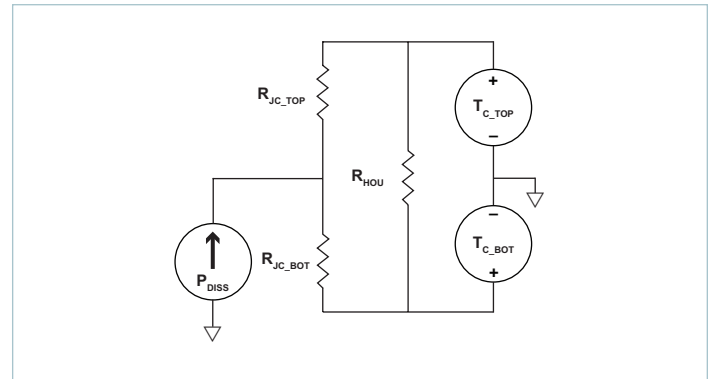
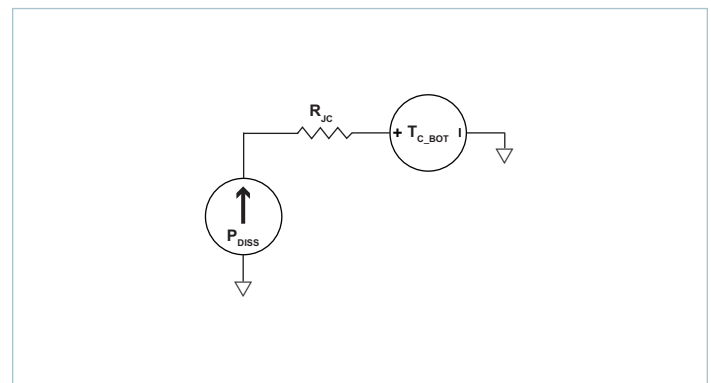

Figure 23 — Double sided cooling VIA thermal model
Figure 24 — Single-sided cooling VIA thermal model
top surface, the bottom surface or both. The extent to which these two surfaces are cooled is a key component for determining the maximum power that can be processed by a VIA, as can be seen from specified thermal operating area on Page 5. Since the VIA has a maximum internal temperature rating, it is necessary to estimate this internal temperature based on a system-level thermal solution. To this purpose, it is helpful to simplify the thermal solution into a roughly equivalent circuit where power dissipation is modeled as a current source, isothermal surface temperatures are represented as voltage sources and the thermal resistances are represented as resistors. Figure 23 shows the “thermal circuit” for the VIA module.
- Single side cooling: the model of Figure 23 can be simplified by calculating the parallel resistor network and using one simple thermal resistance number and the internal power dissipation curves; an example for bottom side cooling only is shown in Figure 24.